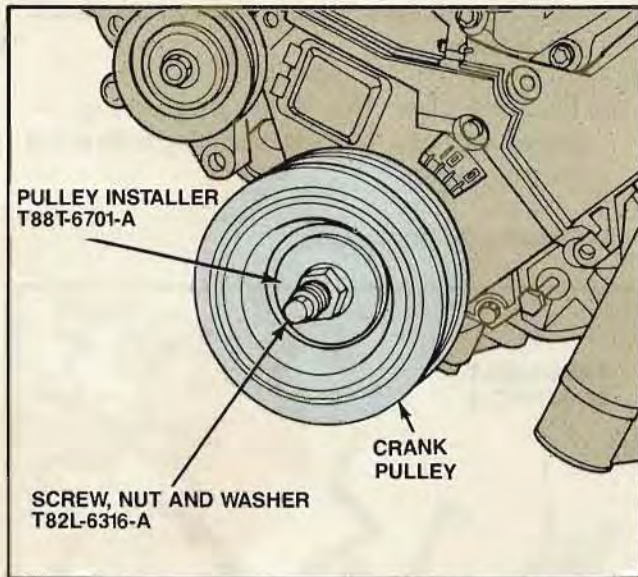

Figure 129. Installing the Crankshaft Damper
7. Install the crankshaft damper (Fig. 129).